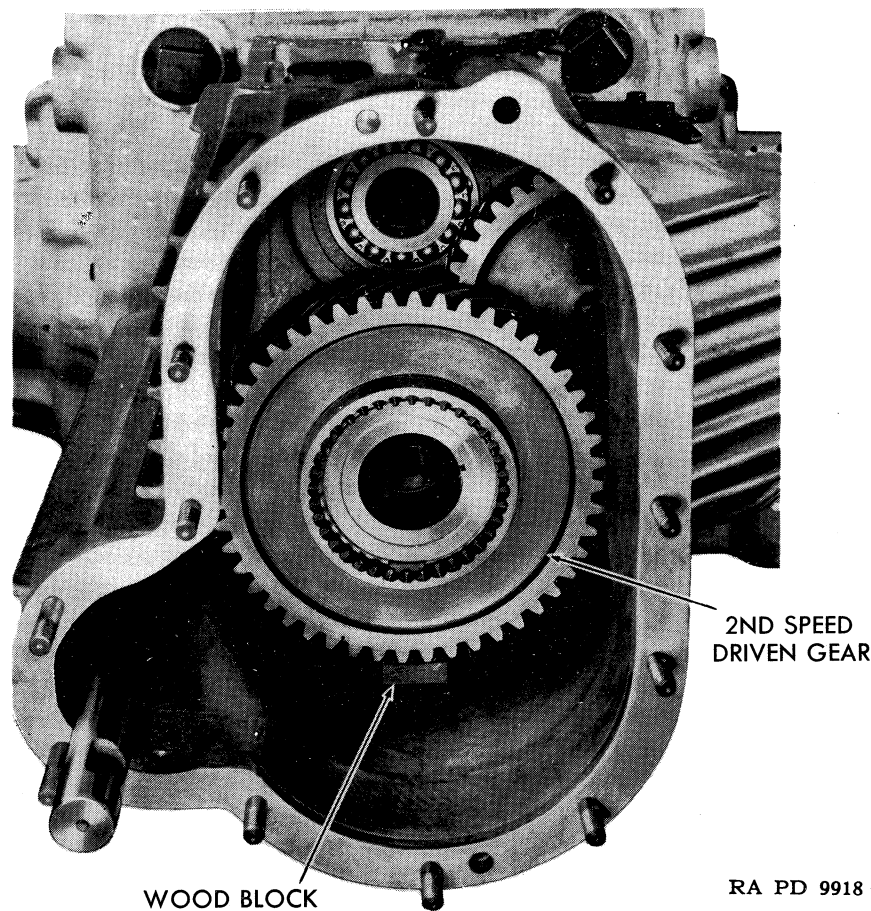

FIGURE 64—Second speed gear blocked to align bore with shaft center bearing.
(13) Set in and block second speed gear assembly (fig. 64).
Tilt gear assembly, supporting needle bearing collar to avoid disassembly, and set it, gear cone to the rear, in transmission case against the output shaft center bearing. Support the assembly on a block of wood of a thickness to align the bore of the gear assembly exactly with the bore of the output shaft center bearing (fig. 64).